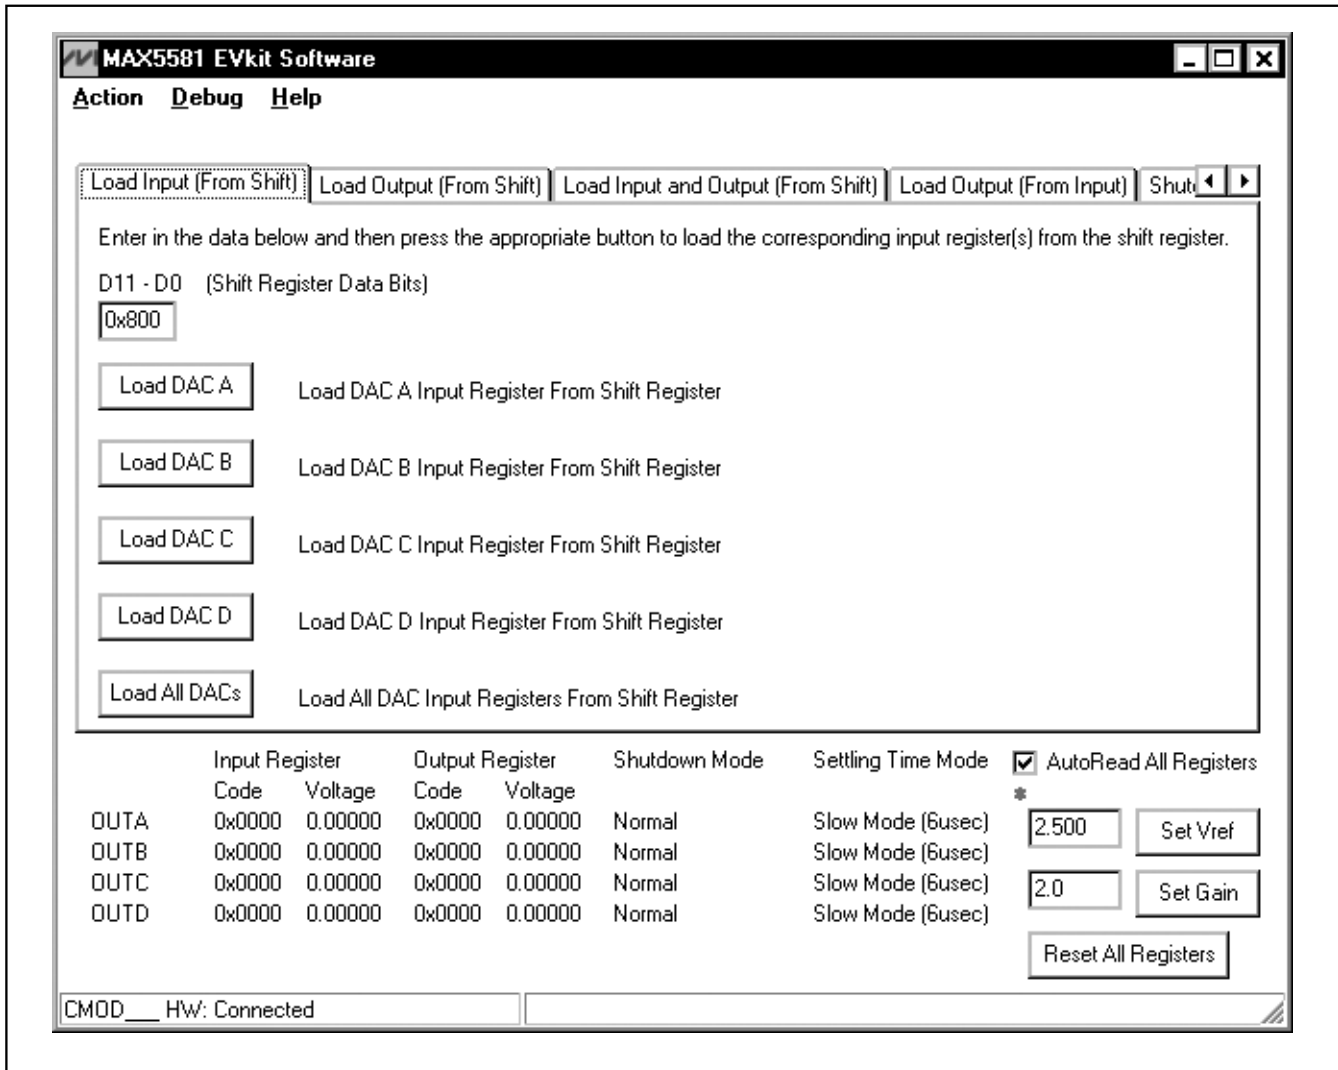
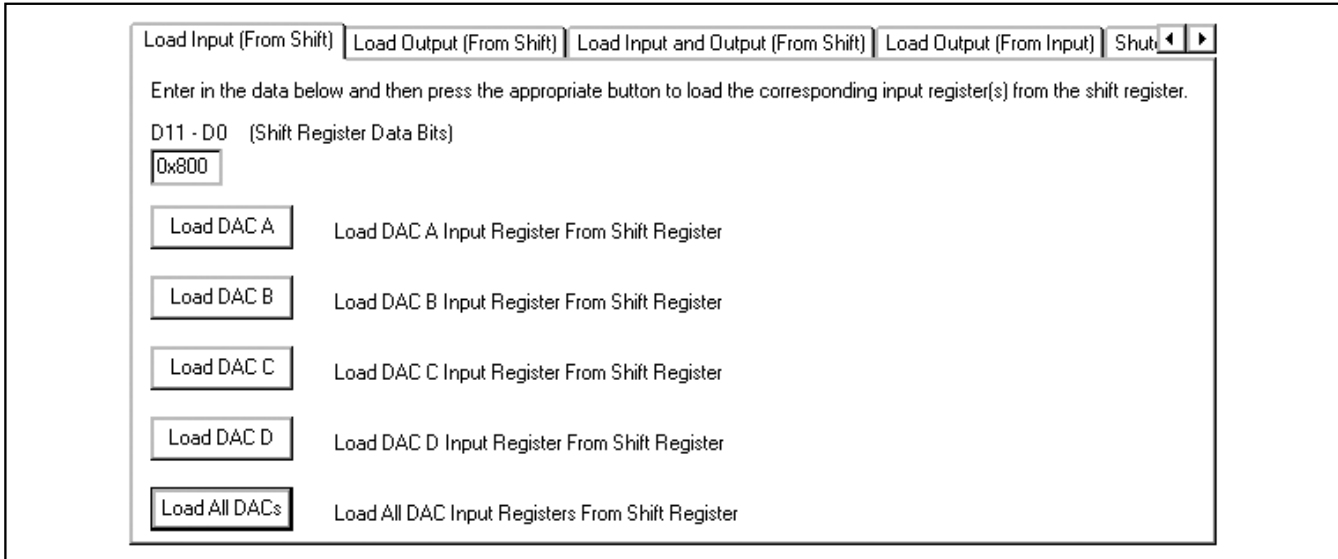
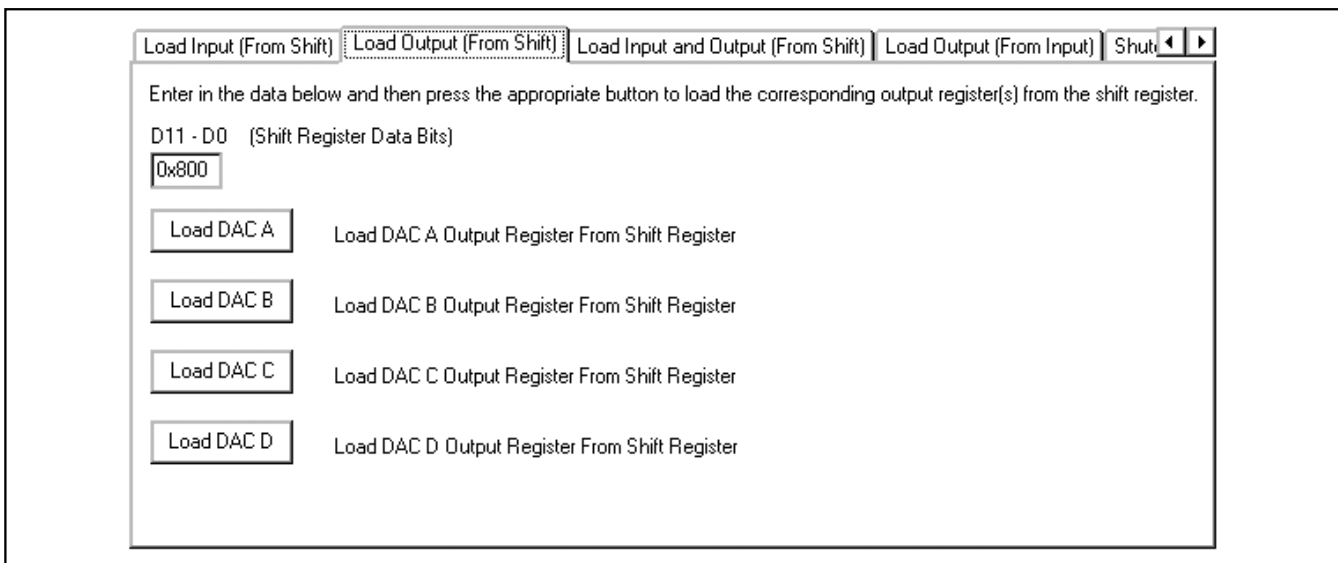

Figure 1. MAX5581 Evaluation Software—Main Window
Figure 2. Load Input (From Shift) Tab
Figure 3. Load Output (From Shift) Tab
The evaluation software's main window, shown in Figure 1, displays the voltage and code for all DAC input and output registers. In addition, the main window also shows the shutdown and settling time status for all of the DACs. Table 1 describes the controls that are always present on the evaluation software's main window.
<input type="button" value="Reset All Registers"/>	Resets all the registers and status information that is permanently on the bottom of the software’s main window as shown in Figure 1.
The **Load Input (From Shift)** tab, shown in Figure 2, allows the user to load the input register of the corresponding DAC with the data that is sent to the shift register. The user can load all four DACs individually or all at once by pressing the appropriate button. If the **AutoRead All Registers** checkbox is checked (see Figure 1), the new input register value is updated to the software's main window.
The **Load Output (From Shift)** tab, shown in Figure 3, allows the user to load the output register of the corresponding DAC with the data that is sent to the shift register. The user can load all four DACs individually by pressing the appropriate button. If the **AutoRead All Registers** checkbox is checked (see Figure 1), the new output register value is updated to the software's main window.
individually or all at once by pressing the appropriate button. If the **AutoRead All Registers** checkbox is checked (see Figure 1), the new input and output register values are updated to the software's main window.
**Load Checked DACs** button. It is also possible to load all of the DACs at once by pressing the **Load All DACs** button. If the **AutoRead All Registers** checkbox is checked (see Figure 1), the new output register values are updated to the software's main window.
**Shutdown Modes** button is pressed. If the **AutoRead All Registers** checkbox is checked (see Figure 1), the new shutdown mode status for each DAC is updated to the software's main window.
**A-D Settling Time Modes** button is pressed. If the **AutoRead All Registers** checkbox is checked (see Figure 1), the new settling time modes for each DAC are updated to the software's main window.